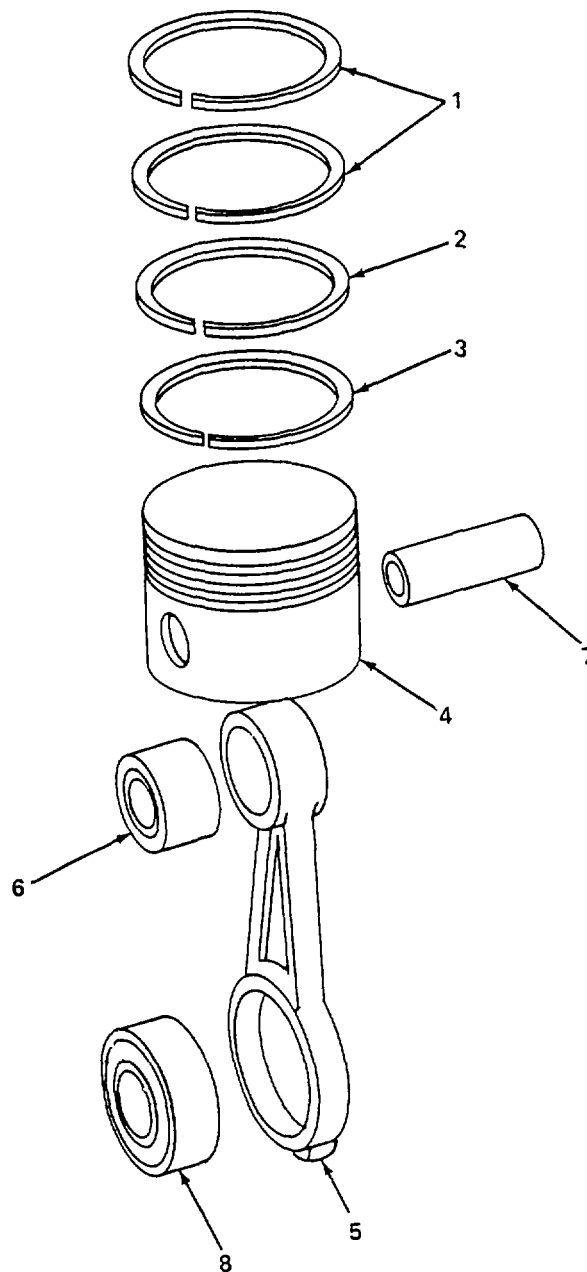

Figure 6-3. First Stage Piston and Connecting Rod Assembly, Repair.
- (1) Install third stage cylinder (para 6-12).
- (2) Install second stage cylinder (para 6-10).
- (3) Install first stage cylinder (para 6-8).
- (4) Install fanwheel (para 5-36).
**b. Repair.** (figure 6-3)
- (1) Remove first stage piston and connecting rod assembly (para. a.).
- (2) Remove two tapered piston rings (1), one scraper piston ring (2), and plain ring (3).